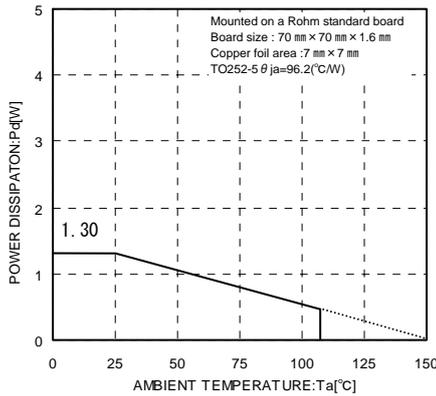
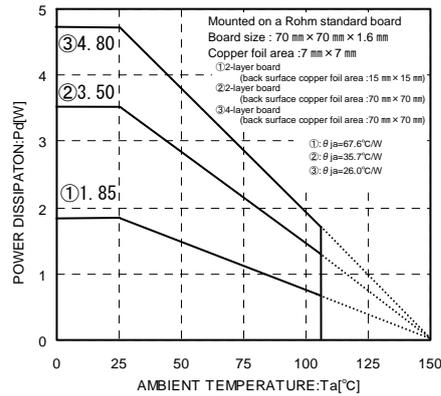

Fig.26
Fig.27(Reference data)
When using at temperatures over $T_a=25^{\circ}\text{C}$, please refer to the heat reducing characteristics shown in Fig.26 and Fig.27. The IC characteristics are closely related to the temperature at which the IC is used, so it is necessary to operate the IC at temperatures less than the maximum junction temperature $T_{j\text{max}}$.
Fig.26 and Fig.27 show the acceptable loss and heat reducing characteristics of the TO252-5 package. Even when the ambient temperature T_a is a normal temperature (25°C), the chip (junction) temperature T_j may be quite high so please operate the IC at temperatures less than the acceptable loss P_d .
The calculation method for power consumption $P_c(\text{W})$ is as follows : (Fig.27③)
$$I_o \leq \frac{2.496 - 10 \times I_b}{5} \quad \left[\begin{array}{l} \text{Fig.27③: } \theta_{ja}=26.0^{\circ}\text{C/W} \rightarrow -38.4\text{mW}/^{\circ}\text{C} \\ 25^{\circ}\text{C}=4.80\text{W} \rightarrow 85^{\circ}\text{C}=2.496\text{W} \end{array} \right]$$